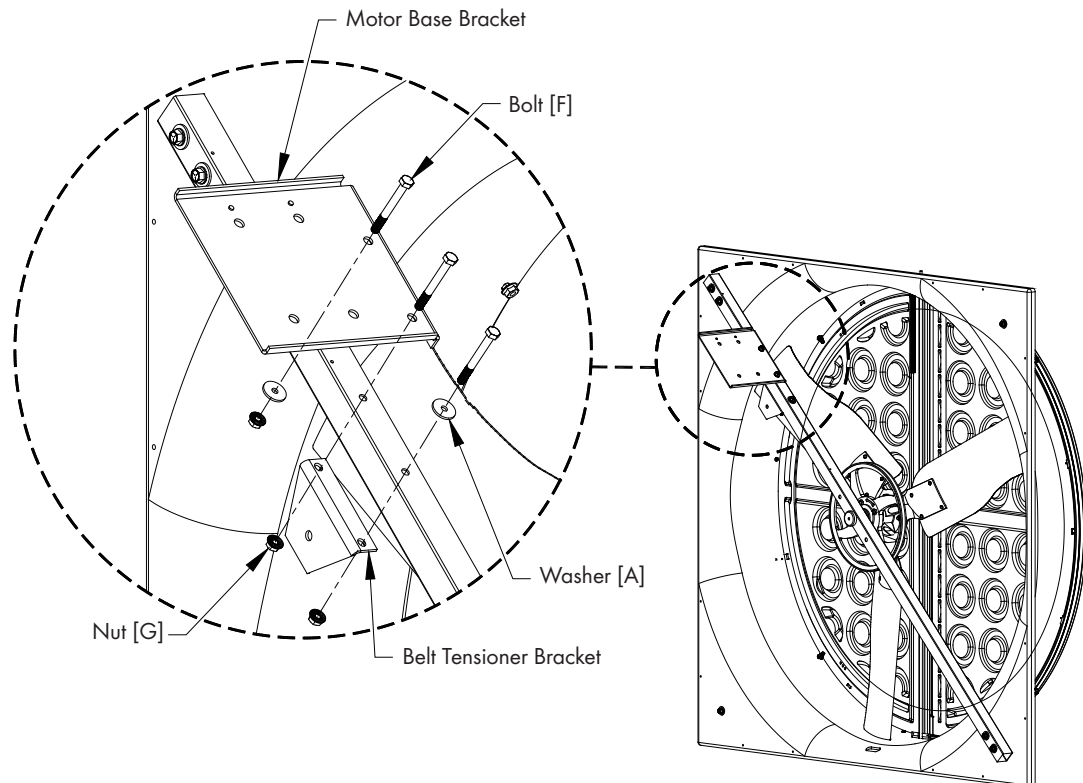

Figure 4
Attach the Motor Base Bracket and the Belt Tensioner Bracket to the Tube Strut using (3) Long Bolts [F], (2) Washers [A] and (3) Nuts [G]. See Figure 4.